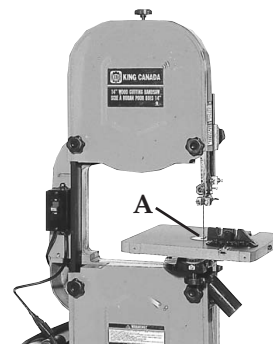

FIGURE 7
Open the lower blade guard cover and install the dust shoot. Use bolts and washers supplied. Close the lower blade guard cover. Your dust shoot should now be just as illustrated in Fig.7
3. **Table insert:** Place the table insert (A-Fig.7) in the hole in the table, make sure the pin in the table protrudes through the insert.